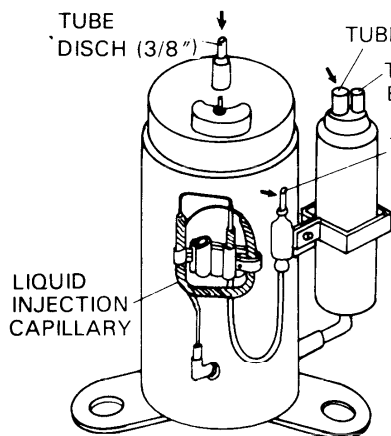

Fig. 16
- 5) With an Oxy-Acetylene torch apply heat uniformly and unbrazed the joints of upper section of the Liquid Injection Capillary tube to the compressor, the upper section of the accumulator and the upper section of the compressor discharge tube respectively, and pull them free with pliers. Fig. 16 shows unbrazing points with arrows.